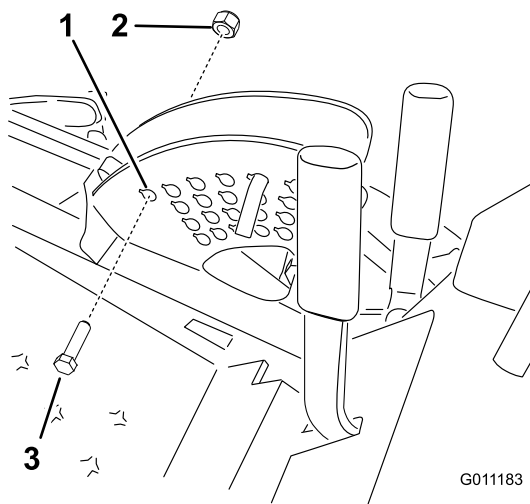

Figure 30
3. Lower the mower deck and install a bolt (1/2 x 2-1/2 inches) and nut (1/2 inch) into the 152 mm (6 inch) height-of-cut hole (Figure 30). This will prevent damage to the double pulley when raising the mower deck up.